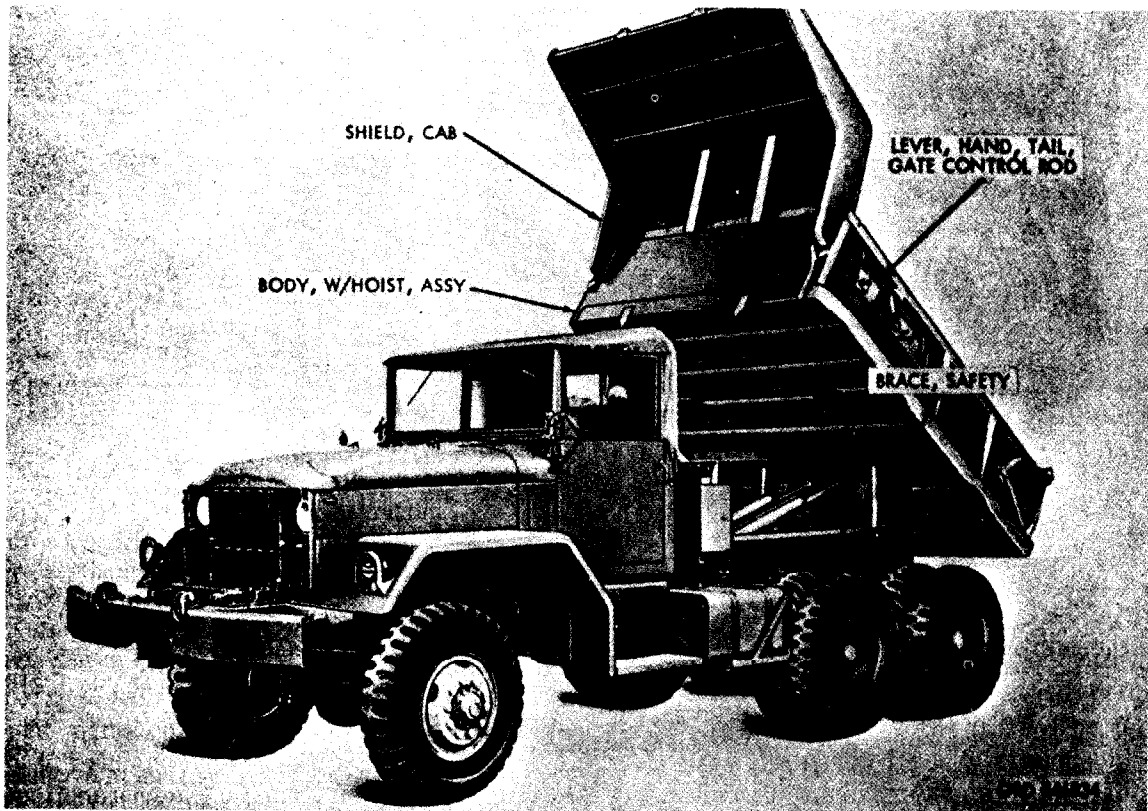
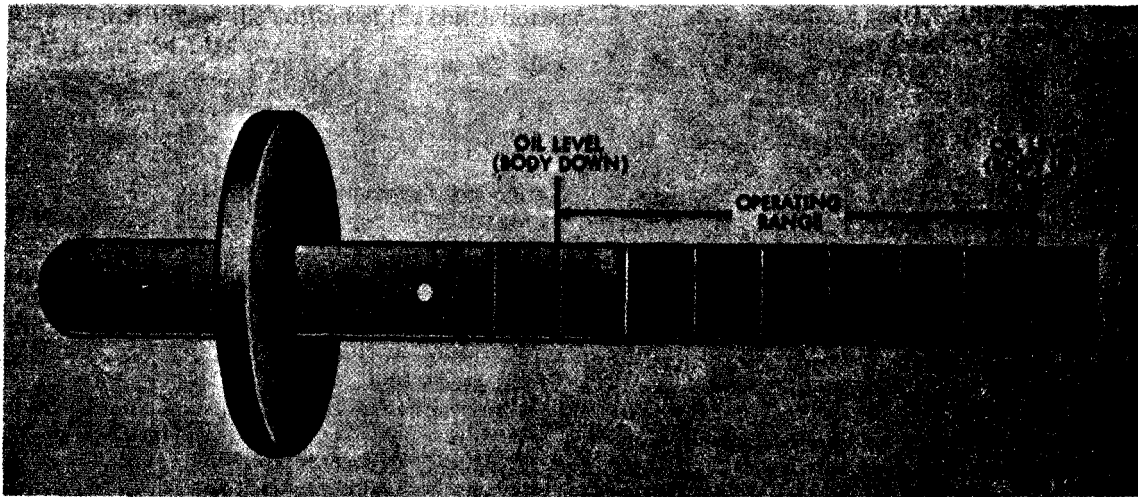

Figure 64. Dump truck M51 (body lifted) - left front view
Figure 66. Oil level gage for hoist assembly
b. Hoist Assembly (fig. 64). The hoist assembly consists of two double-acting cylinder assemblies; the hydraulic control system and
an oil reservoir are contained within the subframe unit. The cylinders are equipped with cast iron pistons, each of which has three piston rings. Cylinder assemblies are powered by oil from the positive gear-type hydraulic pump. Safety braces (fig. 64) are provided on each subframe side rail. These braces must be used at any time repair work is performed on the hoist unit. All hose used on this hoist assembly is of the double-wire, reinforced high pressure type, and must never be replaced with ordinary low pressure hose. A closed hydraulic system is provided with reservoir built into front end of subframe assembly. An oil level gage (fig. 66) is found directly under the filler cap.
a. Never work under the dump body unless safety braces (fig. 64) are properly positioned. When body is partially raised, always use a strong heavy prop to hold body in a raised position.